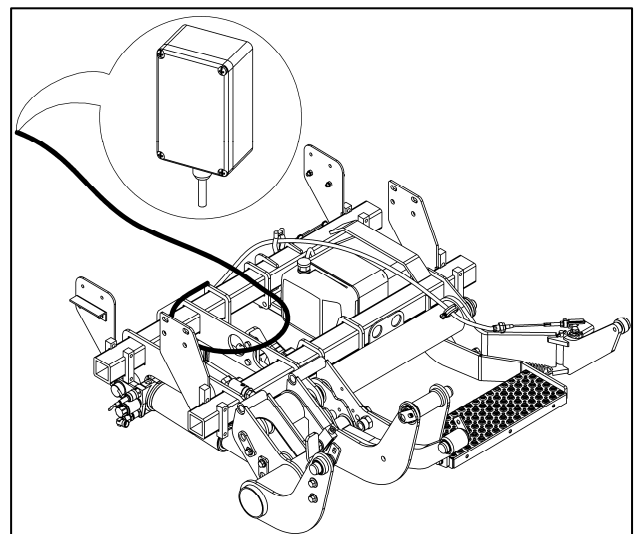

Fig. 16
- Route the Control Unit cable for service switch connection to the vehicle cargo area (Fig. 16).